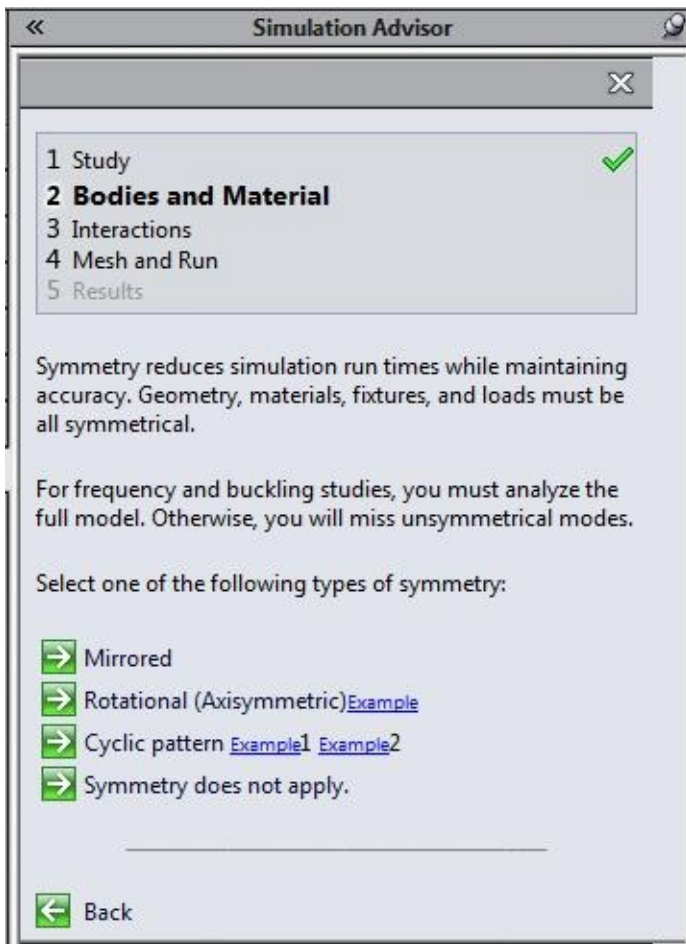

Figure-39. Simulation Advisor with symmetry page
- Click on the **Next** button from the pages related to symmetry will be displayed; refer to Figure-39. Note that if you apply symmetry then calculation time for analysis will be reduced.